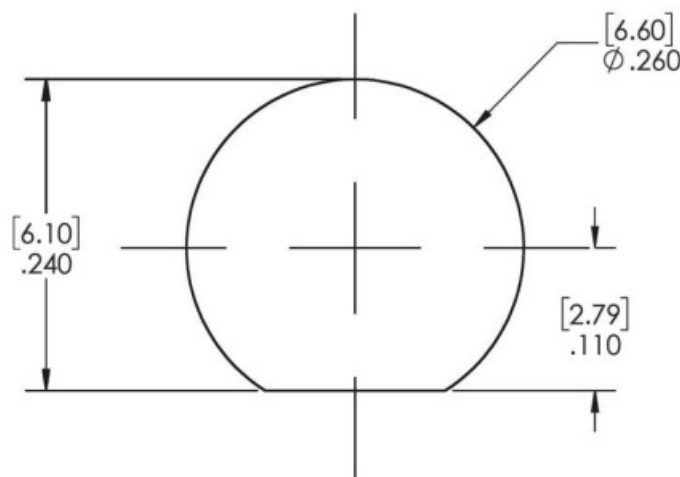

Figure 2 – Recommended mounting hole for 1/4-36UNS-2A threaded antenna with flat
4. Determine the best location for the external antenna position and create an opening to mount the antenna and bulkhead (See Figure 2 for measurements).